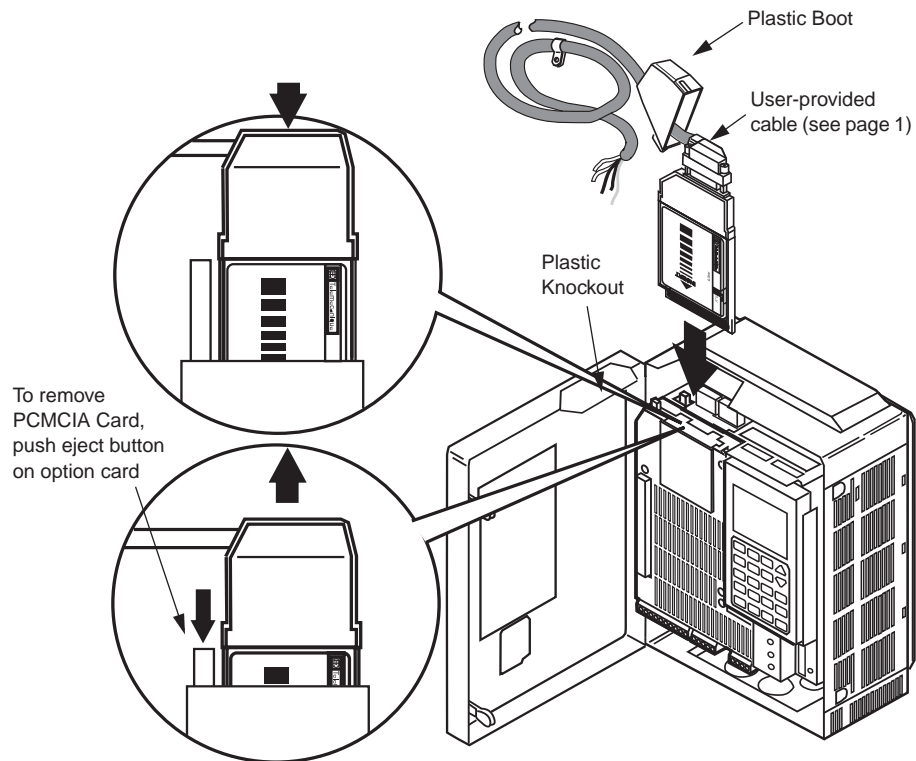

Figure 3: Mounting and Removing Modbus Plus PCMCIA Kit
4. Install the plastic boot supplied with the Modbus Plus PCMCIA kit onto separately ordered cable (see Figure 3). Install cable onto 9-pin D-shell connector of the PCMCIA card.
5. Insert the PCMCIA card 68-pin connector into the PCMCIA slot on top of option card with the “Insert” arrows facing toward the front of drive controller (see Figure 3). Seat the plastic boot over the end of the PCMCIA card as shown.